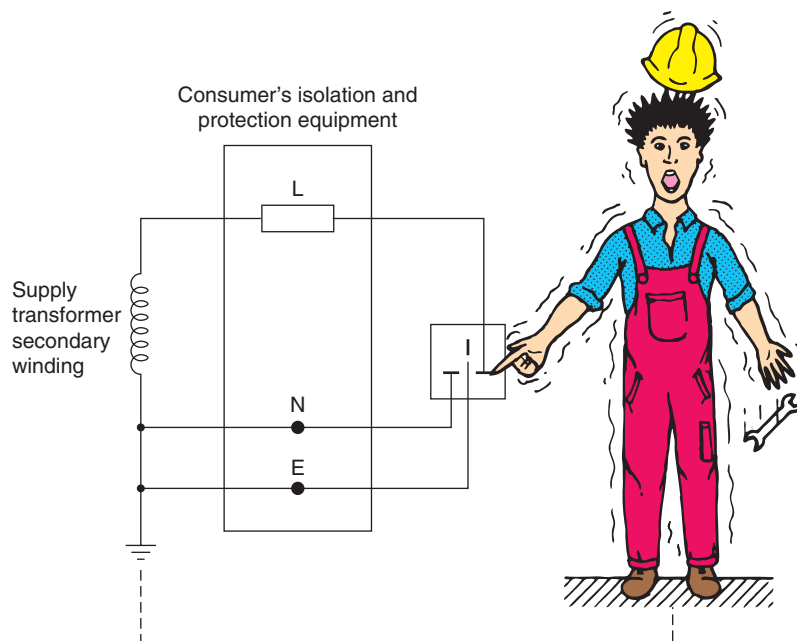

FIGURE 1.9
- Electric shock occurs when a person becomes part of the electrical circuit as shown in Fig. 1.9.